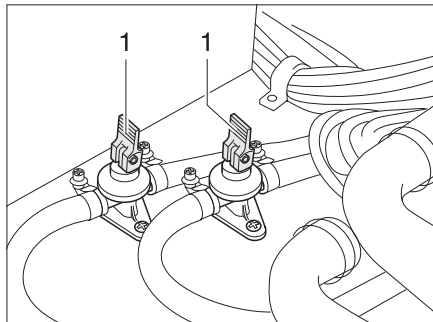

Fig. 119 Drain cocks
- Close the drain cocks. Position the rocking levers (Fig. 119,1) horizontally.
- Open the drain cocks (Fig. 119). Position the rocking levers (Fig. 119,1) vertically. The boiler is drained to the outside using the drain cocks.